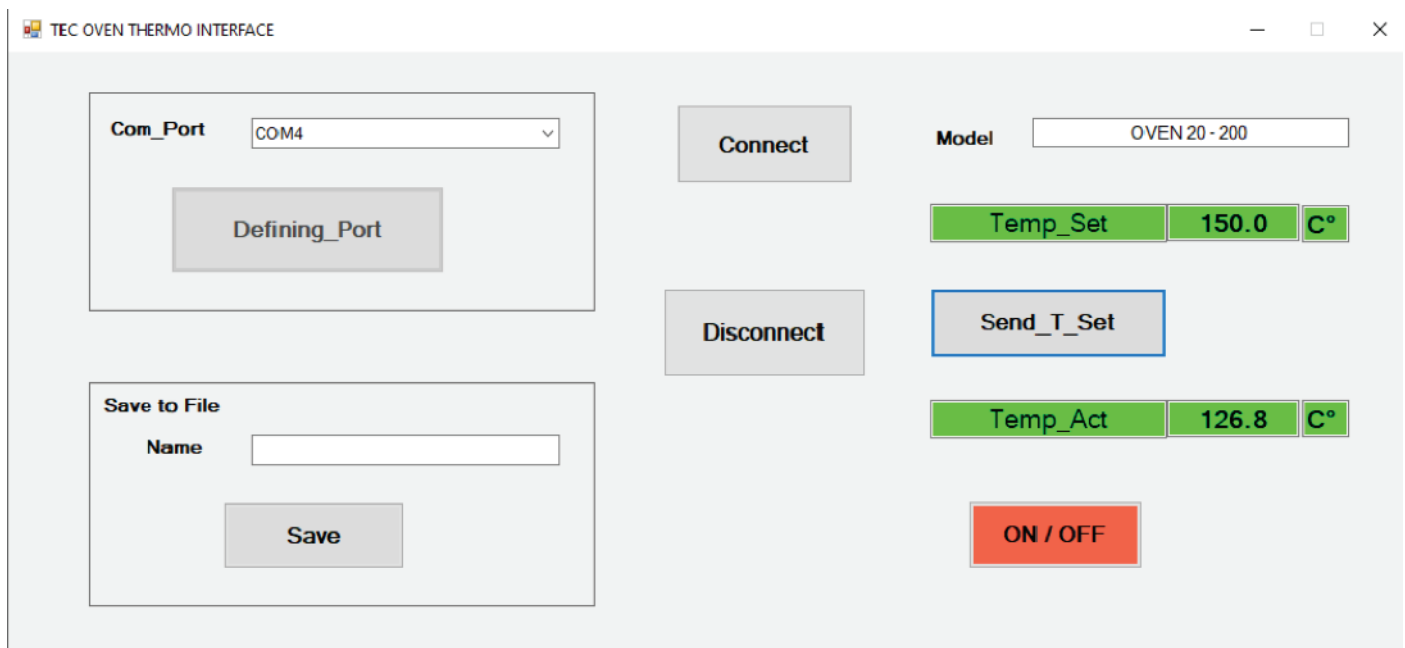

FIGURE 5. User Interface Software
- Pressing the 'Connect' button interface connects to the Oven controller and activates the interface (figure 5). At this moment, all control knobs of the Oven controller are disabled (except for the '**POWER**' switch), and the current state of the Oven controller are reflected on the interface.